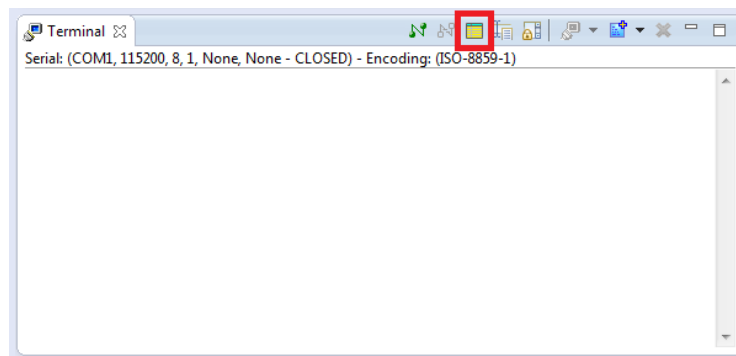

Figure 13-8. *ARM DS-5* Serial Terminal
70. Although we can continue to use the “minicom” program as we previously did in Figure 13-5, we will use the built-in serial terminal available in *ARM DS-5* to have all development windows in one area. Go to “Window > Show View > Other... > Terminal > Terminal1” to open *ARM DS-5*’s the built-in serial terminal. You should see the terminal shown in Figure 13-8.